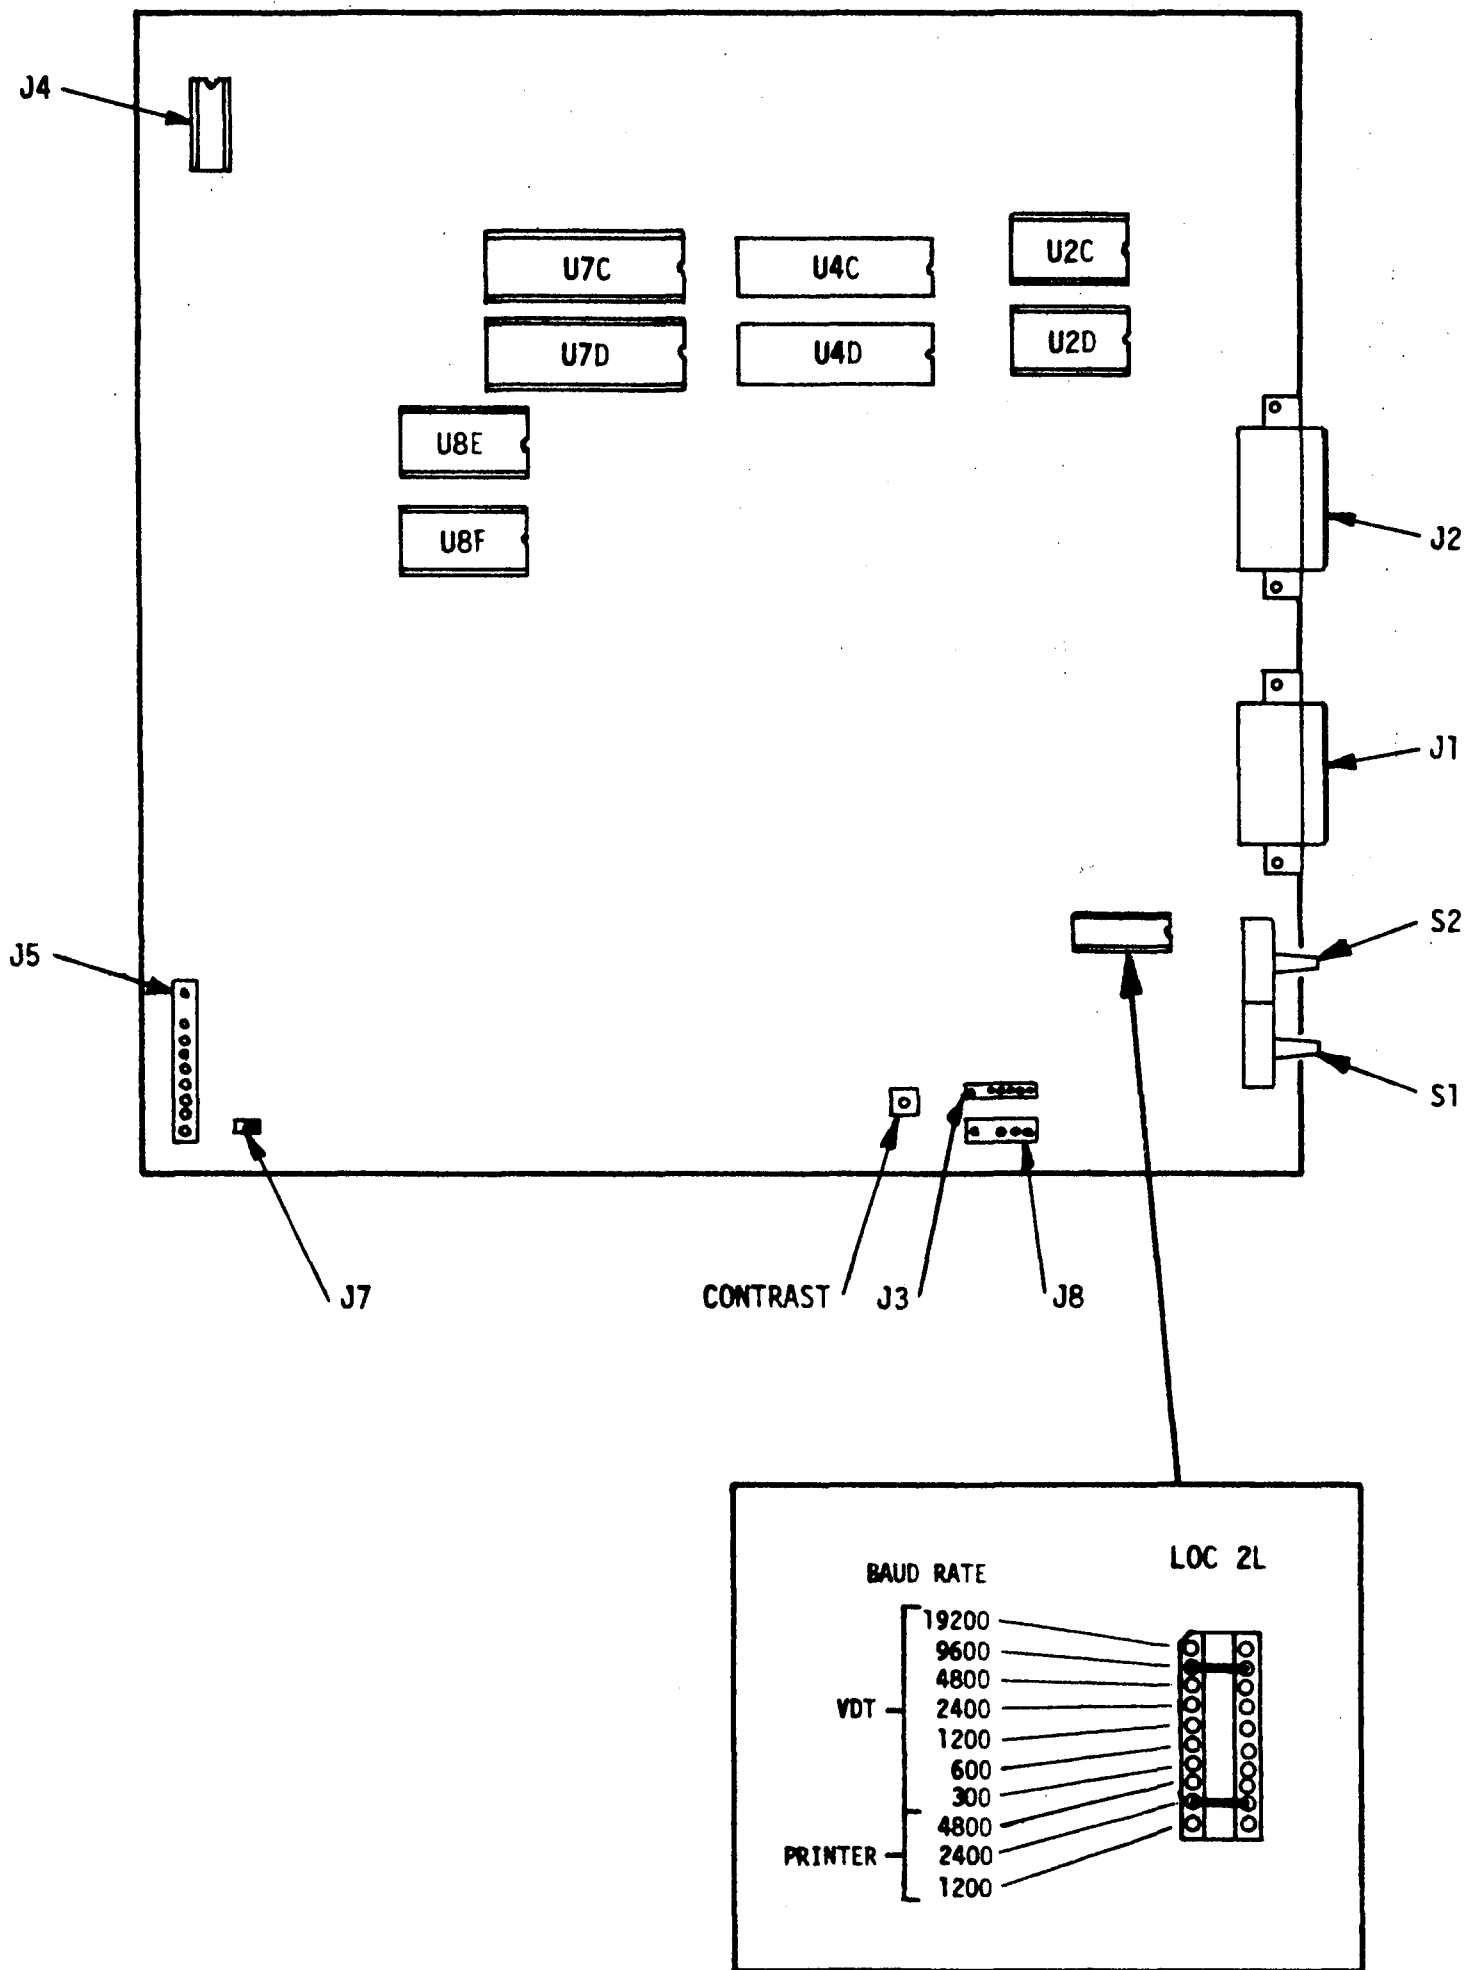

Figure 2-2. I/O Control Logic PCB
5. Set DUPLEX switch (S1) to Batch mode (Figure 2-2).
6. Set jumper at location 2L to 9600 baud for the VDT and 2400 baud for the Printer (Figure 2-2).
1. Set DUPLEX switch (S1) to FULL mode (see Figure 2-2).
2. Verify jumper at location 2L is in the 9600 position (see Figure 2-2).